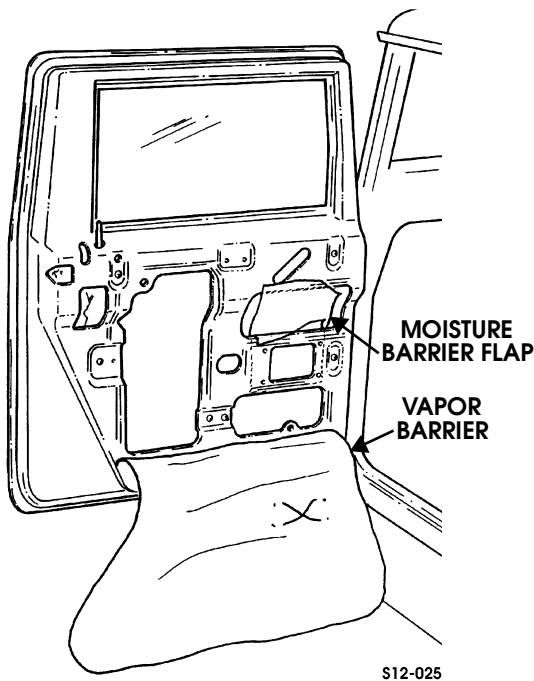

Figure 12-115: Vapor Barrier
5. Remove vapor barrier and moisture barrier flap from door (Figure 12-115).